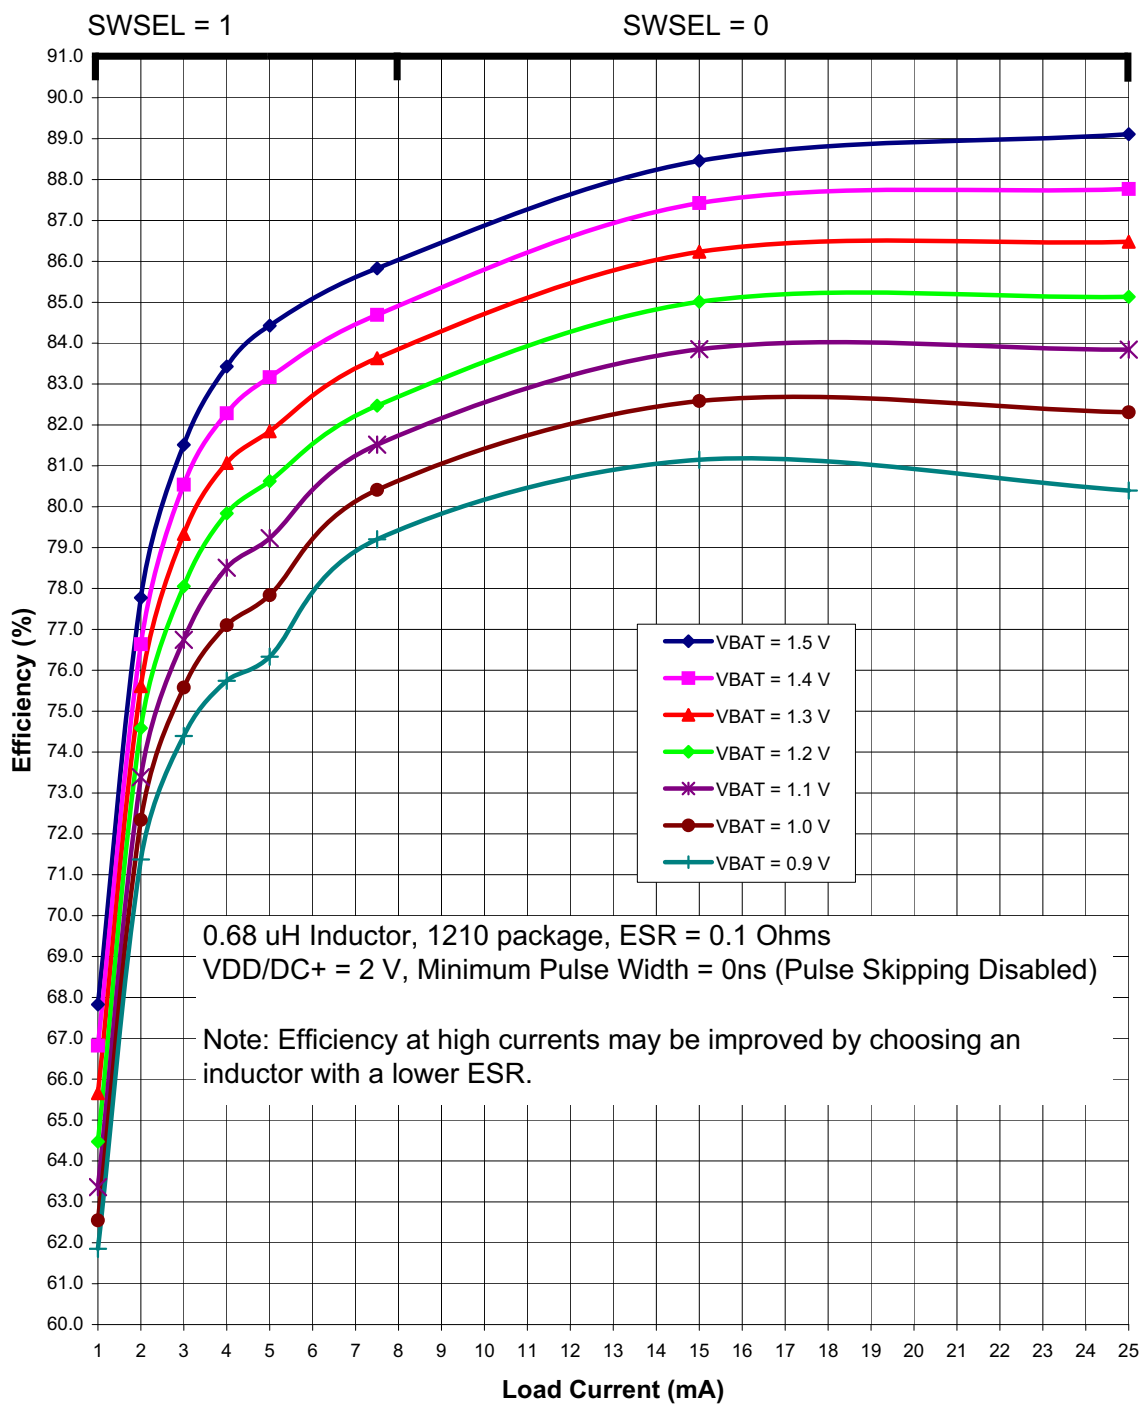
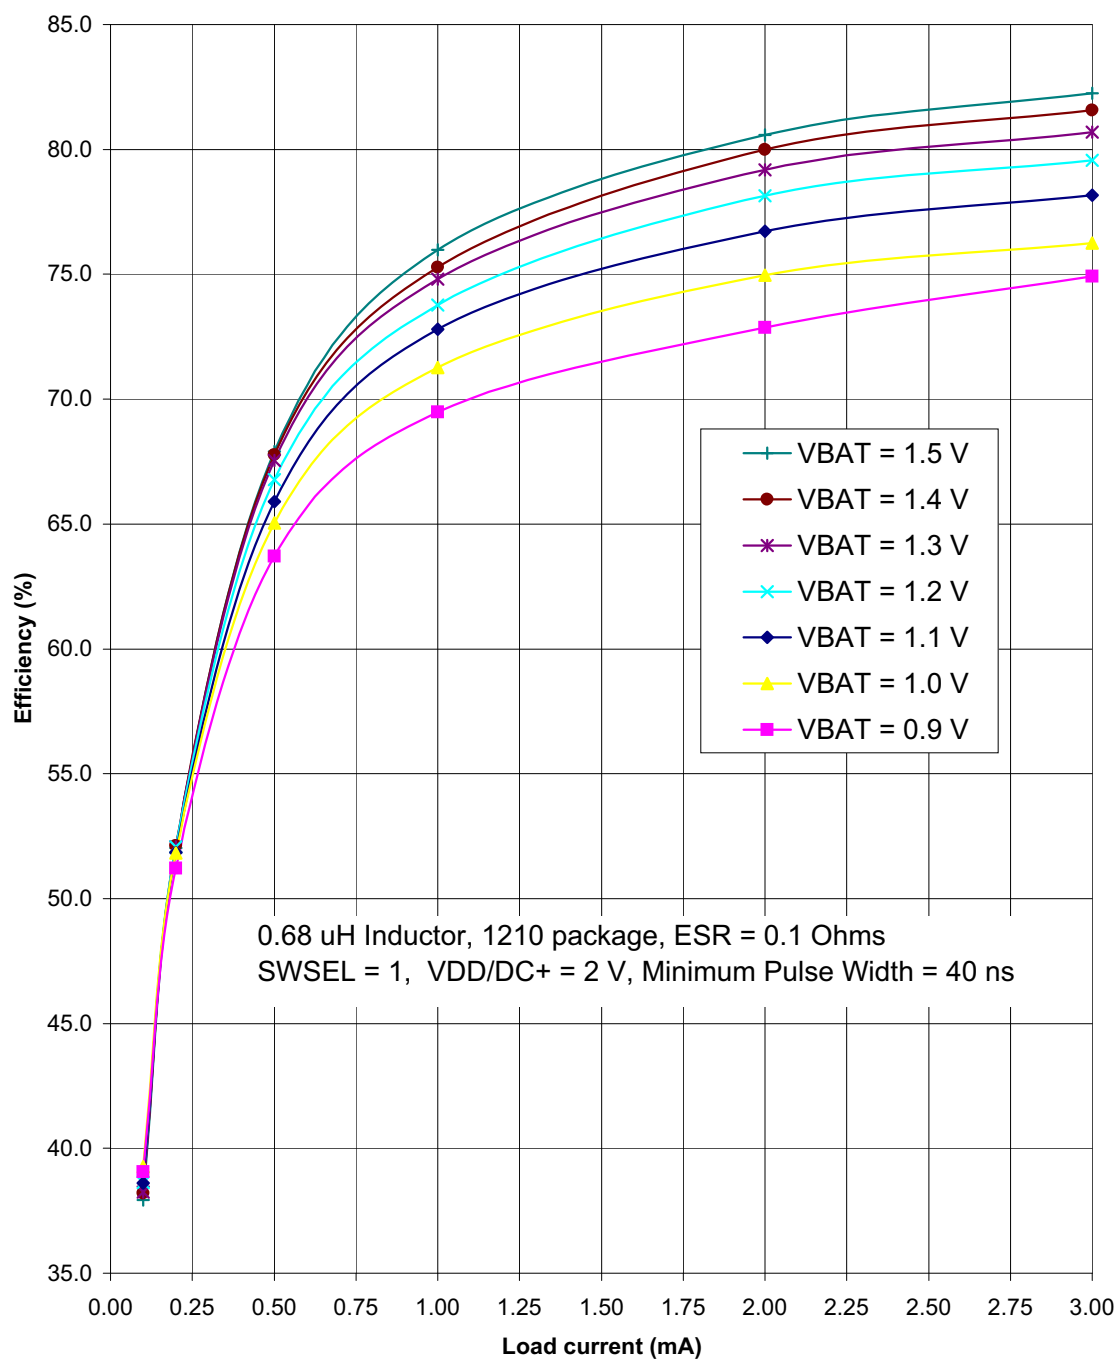

Figure 4.3. Typical DC-DC Converter Efficiency (High Current, VDD/DC+ = 2 V)
Figure 4.5. Typical DC-DC Converter Efficiency (Low Current, VDD/DC+ = 2 V)
| Notes: <ol style="list-style-type: none"> <li>Based on device characterization data; Not production tested.</li> <li>SYSCLK must be at least 32 kHz to enable debugging.</li> <li>Digital Supply Current depends upon the particular code being executed. The values in this table are obtained with the CPU executing an "sjmp \$" loop, which is the compiled form of a while(1) loop in C. One iteration requires 3 CPU clock cycles, and the flash memory is read on each cycle. The supply current will vary slightly based on the physical location of the sjmp instruction and the number of flash address lines that toggle as a result. In the worst case, current can increase by up to 30% if the sjmp loop straddles a 128-byte flash address boundary (e.g., 0x007F to 0x0080). Real-world code with larger loops and longer linear sequences will have few transitions across the 128-byte address boundaries.</li> <li>Includes oscillator and regulator supply current.</li> <li>IDD can be estimated for frequencies <math>\leq 10</math> MHz by simply multiplying the frequency of interest by the frequency sensitivity number for that range, then adding an offset of 90 <math>\mu</math>A. When using these numbers to estimate <math>I_{DD}</math> for <math>&gt;10</math> MHz, the estimate should be the current at 25 MHz minus the difference in current indicated by the frequency sensitivity number. For example: <math>V_{DD} = 3.0</math> V; <math>F = 20</math> MHz, <math>I_{DD} = 4.1</math> mA – <math>(25 \text{ MHz} - 20 \text{ MHz}) \times 0.120 \text{ mA/MHz} = 3.5</math> mA.</li> <li>The Supply Voltage is the voltage at the VDD_MCU pin, typically 1.8 to 3.6 V (default = 1.9 V). Idle IDD can be estimated by taking the current at 25 MHz minus the difference in current indicated by the frequency sensitivity number. For example: <math>V_{DD} = 3.0</math> V; <math>F = 5</math> MHz, Idle <math>I_{DD} = 2.5</math> mA – <math>(25 \text{ MHz} - 5 \text{ MHz}) \times 0.095 \text{ mA/MHz} = 0.6</math> mA.</li> <li>The supply current specifications in Table 4.2 are for two cell mode. The VBAT current in one-cell mode can be estimated using the following equation: <math display="block">\text{VBAT Current (one-cell mode)} = \frac{\text{Supply Voltage} \times \text{Supply Current (two-cell mode)}}{\text{DC-DC Converter Efficiency} \times \text{VBAT Voltage}}</math> <p>The VBAT Voltage is the voltage at the VBAT pin, typically 0.9 to 1.8 V. The Supply Current (two-cell mode) is the data sheet specification for supply current. The Supply Voltage is the voltage at the VDD/DC+ pin, typically 1.8 to 3.3 V (default = 1.9 V). The DC-DC Converter Efficiency can be estimated using Figure 4.3–Figure 4.5.</p> </li> <li>The EZRadioPRO peripheral is placed in Shutdown mode.</li> </ol> |                |     |     |     |      |